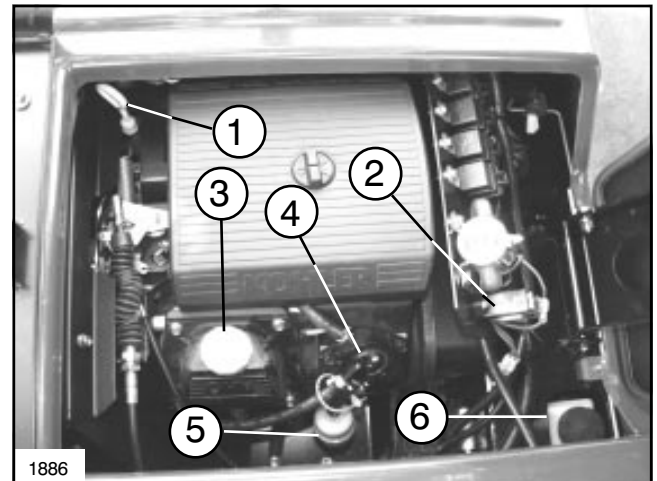

FIG. 32
There is one (1) 30 amp and one (1) 10 amp used in the vehicle's electrical system. The fuse box is located under the operators seat. (See FIG. 32)